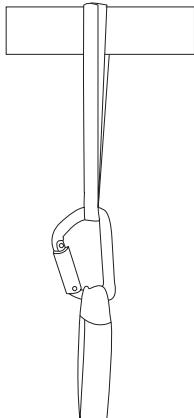
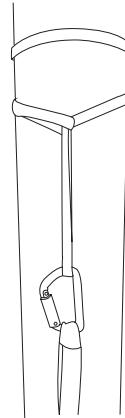
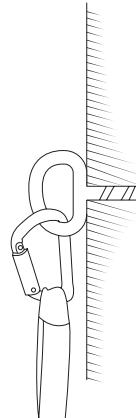
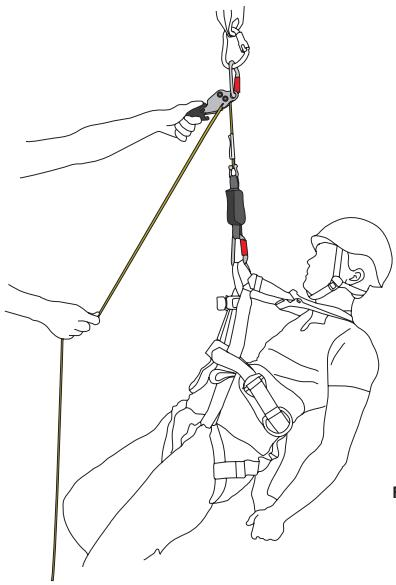

Fig. 1A: Horizontal anchor
Fig.1B: Vertical anchor
Fig. 1C: Fixed structural anchor
Fig. 4
2. Place the anchor sling around a structure and into the karabiner fig. 1A.
If the anchor sling is placed around a vertical construction, detach the sling and place it twice around the pole and through itself again. Then attach the karabiner as shown in fig. 1B. Ensure that the anchor sling locks in place. Fig. 1C show how to attach the karabiner to a fixed structural anchor EN795 cl.A.
4. Detach the karabiner from the anchor sling. Place the anchor sling around a structure and into its karabiner as shown in fig. 1A or fig. 1B. The anchor must be able to support a load of 12 kN (EN795). Attach the **SMARTLINE X** as shown in fig.4